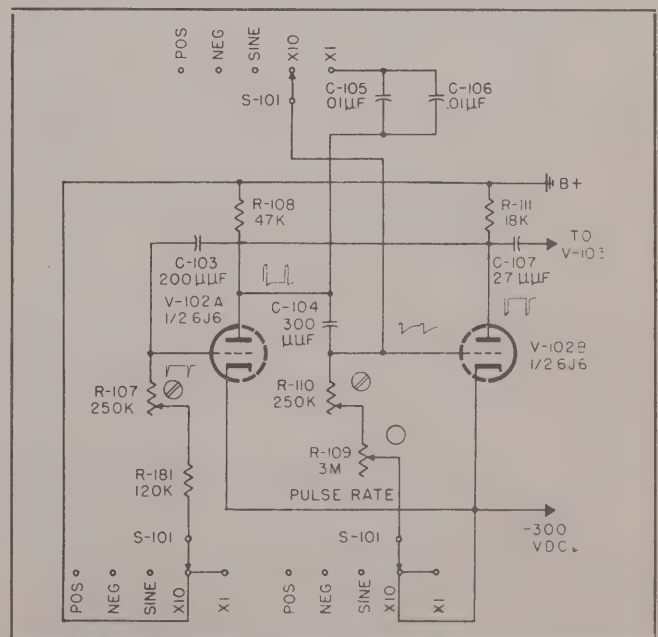

Figure 3-8. Free Running Pulse Rate Multivibrator
(1) FREE-RUNNING.—When switch S-101 is in the x1 or x10 position, the circuit operates as a free-running multivibrator with unbalanced waveform. The multivibrator circuit is shown in figure 3-8 with S-101 drawn in simplified form and unused parts of the circuit removed. Basically, the duration of the pulse generated by the multivibrator at the plate of V-102B is determined by the time constant in the grid of V-102A, while the repetition rate of the multivibrator is determined by the setting of R-109 in the grid circuit of V-102B and by the capacitors C-104 to C-106, also in the grid circuit of V-102B. The multivibrator covers the range from 40 to 4000 pps in two ranges. The higher range from 400 to 4000 pps is obtained by switching C-105 and C-106 out of the circuit. R-109 is the PULSE RATE control and is calibrated directly in pps for the lower range (40 to 400).